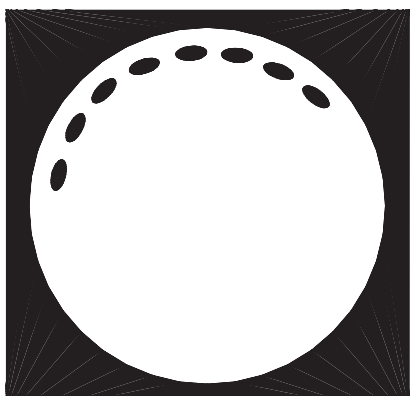

Fig B-9. A typical test result
- Fig B-9 shows 8 dots. This would indicate an exposure time of 0.08sec for a 50Hz full wave rectified generator.